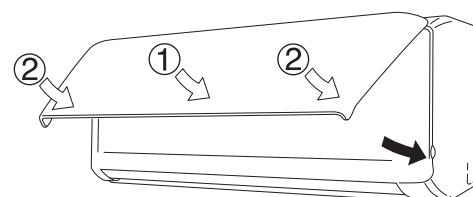

Fig. 3-88
- (6) Insert the top of the anti-mold filter, and then secure the bottom of the filter with the protrusions on the unit.
- (7) When closing the front panel, push the central part of the front panel first and then press the bottom right and left corners in place until you feel a click. (Fig. 3-88)